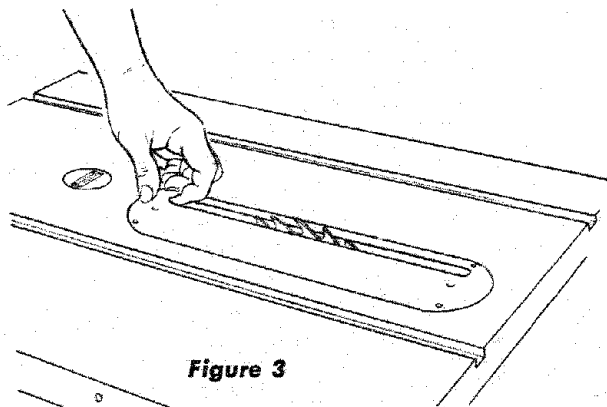
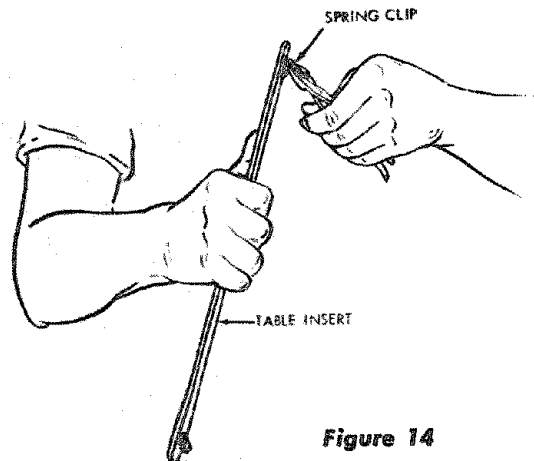

Figure 3
Figure 14
4. Remove the table insert, by inserting a finger into the slot at one end of the insert and lifting it upward and out. (See figure 3.)
- b. The spring clips should have enough tension to hold the table insert firmly in position in saw table. If insert is loose, lift the insert out (figure 3) and, with pliers, bend the spring clips carefully until they hold the insert securely. (See figure 14.) Several trials may be required.